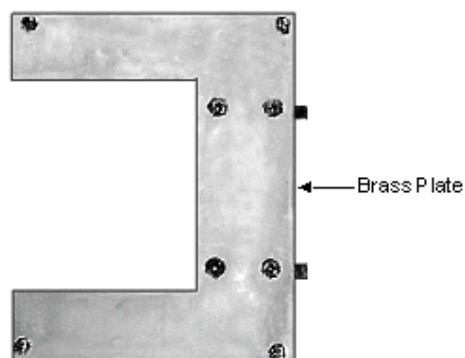

Figure 4-7: Removing the Screws from the Brass Plate
6. Remove all screws from the brass plate as shown in Figure 4-7.